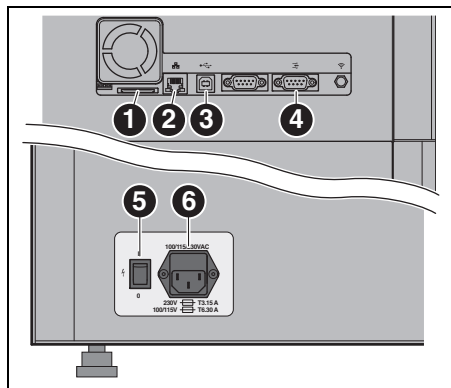
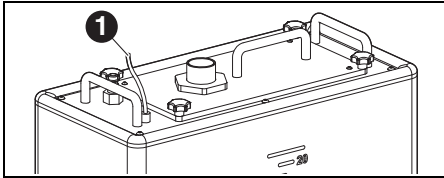

Fig. 7 Interfaces on the rear side of the milling machine
Fig. 8 Connections of the supply unit
- ▷ Connect the control cable to the control interface for the supply unit on the rear side of the milling machine ([4] in Fig. 7) and to the supply unit ([1] in Fig. 8).
- ▷ Connect a USB cable to the USB interface ([3] in fig. 7) of the milling machine and to a free USB port of the PC.
- ▷ Connect the Ethernet interface ([2] in Fig. 7) of the milling machine with the PC or with the network using a network cable.